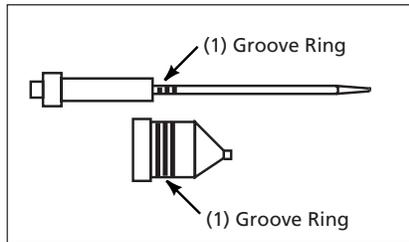

Figure 2 - Thin Material Needle And Nozzle Kit
- The thin material needle and nozzle have a single groove ring as shown in Figure 2 below.
6. Install the appropriate needle/nozzle assembly selected for the material to be sprayed (Fig. 2, 3 & 4).